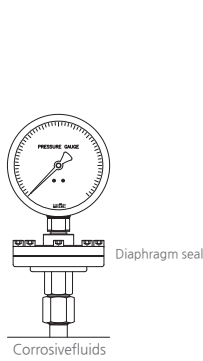

Figure 1
- 1) If corrosive fluid is used, diaphragm of proper material should be used to prevent corrosion. (Figure 1)